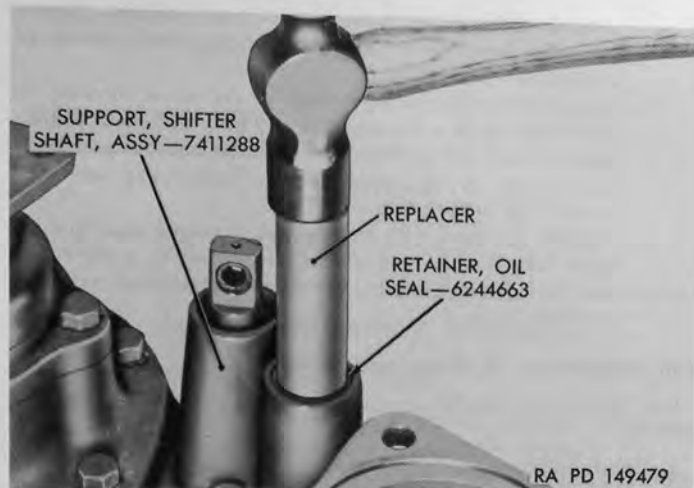

Figure 84. Use of shifter shaft oil seal replacer 41-R-2394-115 to install oil seal retainers.
e. Install oil seals (W) and oil seal retainers (Y) in recesses in shifter shaft support assembly (Z). Use shifter shaft oil seal replacer 41-R-2394-115 as shown in figure 84 to drive oil seal retainers into place.